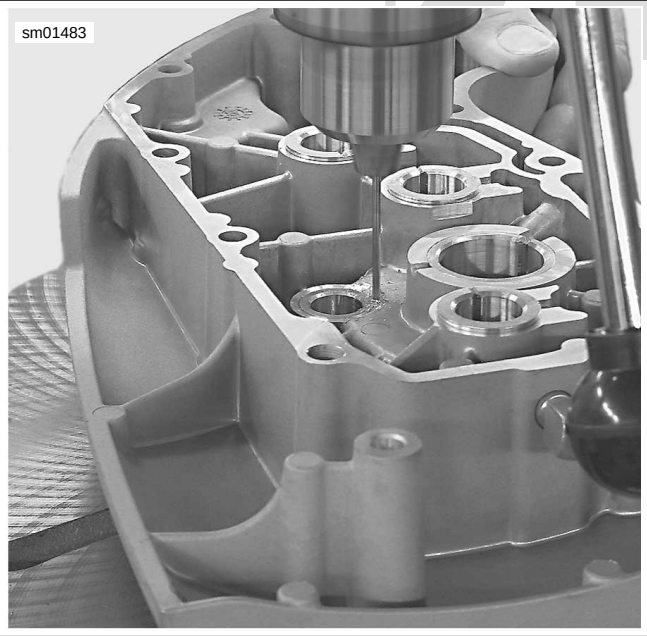

Figure 3-110. Drilling Pinion Bushing Dowel Pin Hole in Gearcase Cover
2. See Figure 3-110. Although the original pinion shaft bushing is not "pinned," the replacement bushing must be secured from possible rotation within the cover bore, by installation of a dowel pin. Drill a No. 31 hole, 0.281 in. (7.14 mm) deep, at top side of boss (side toward top of gearcase cover), centering the drill bit on the cover bore